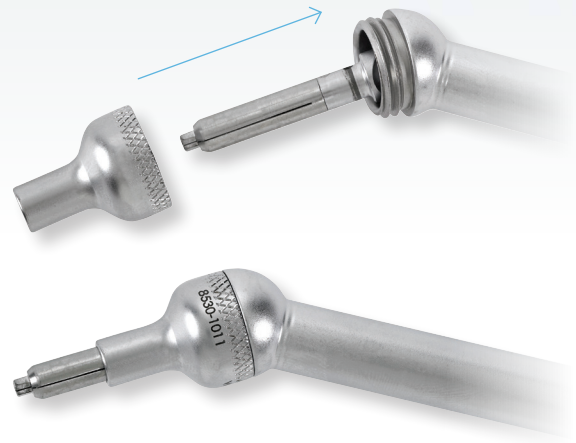

Figure 22:
- For screw insertion using angled instruments, insert the u-joint driver split tip into the u-joint driver sleeve, thread the u-joint driver tip onto the end of the sleeve, and assemble on to the ratcheting straight handle or ratcheting T-handle (**Figure 22**).